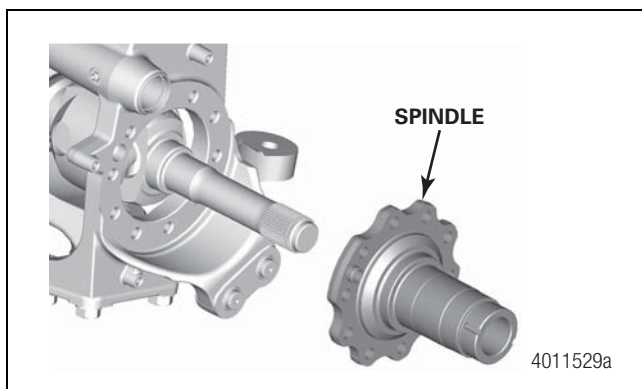

Figure 7.12
7. Install the spindle against the knuckle with the ABS sleeve aligned to the ABS through hole in the knuckle. Figure 7.12.